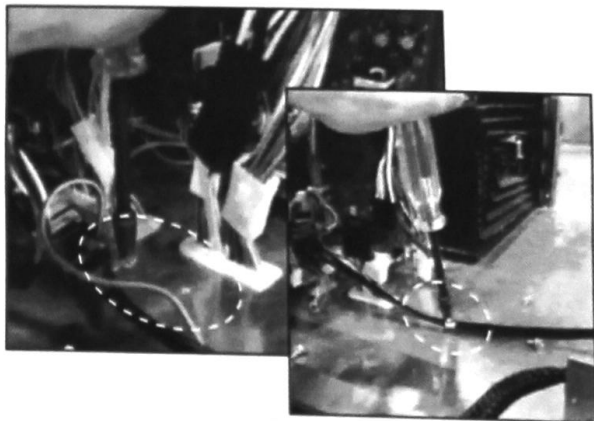

FIGURE 23
24. Reconnect the grounding wire connections using the screws from step 11. Re-install screw to power cord strain relief removed in step 12. See Figure 23.